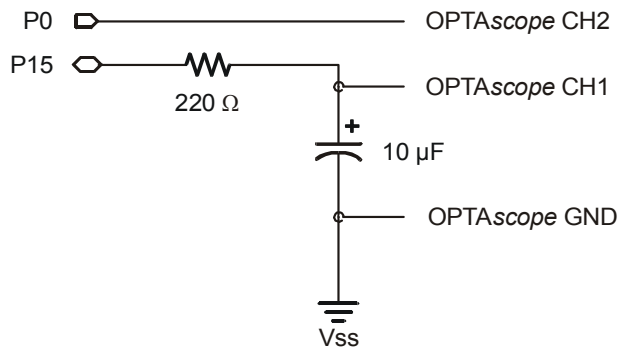
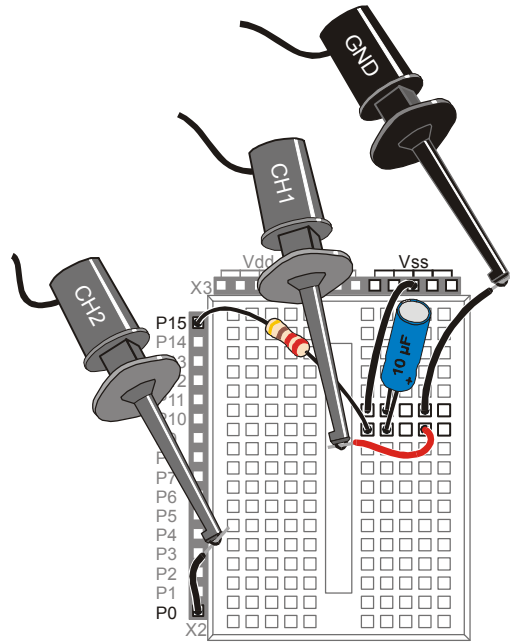

Figure 4-4:
Figure 4-5:
- ✓ Build the circuit as shown in Figure 4-4 and Figure 4-5 , paying attention to the polarity of the capacitor. If you are using a BASIC Stamp HomeWork Board leave the 220 Ω resistor out. Use a jumper wire to make the necessary connection.
- ✓ Attach the CH1, CH2 and Ground probes as shown in Figure 4-4.